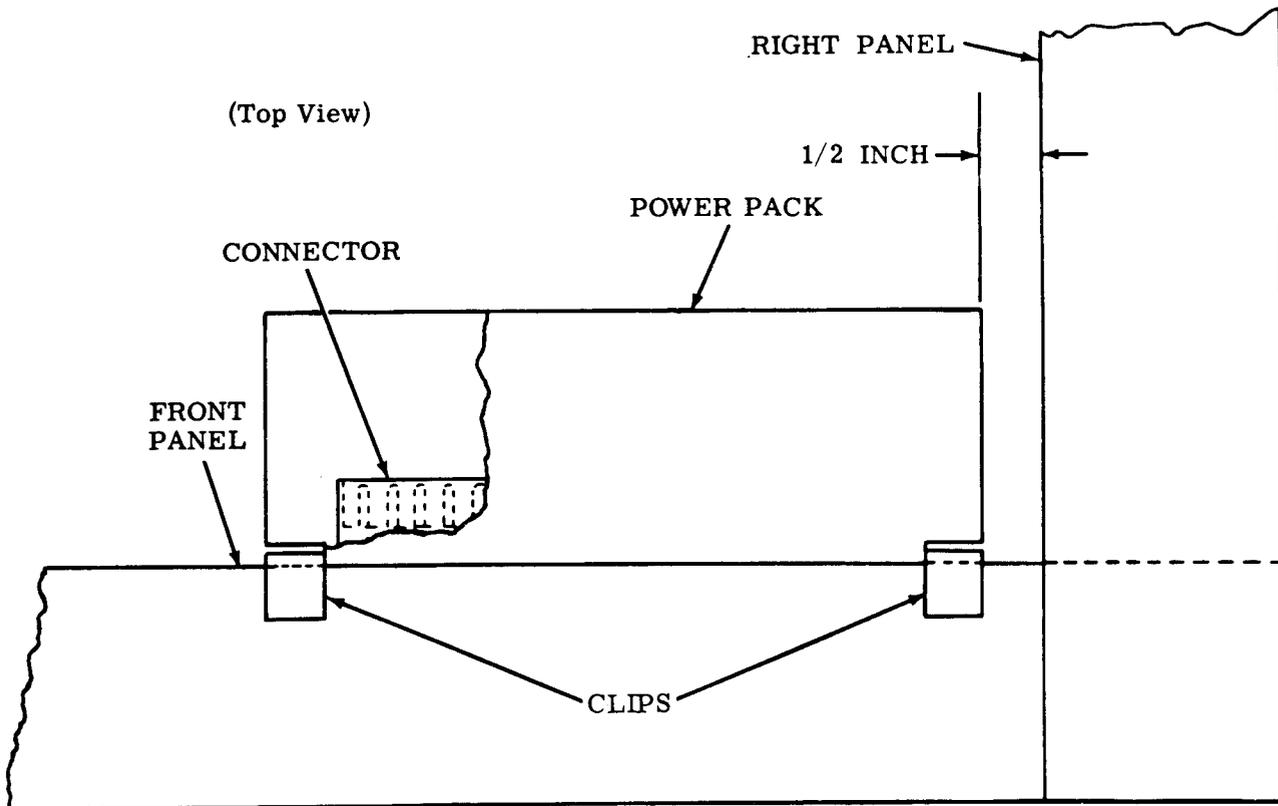

Figure 16 - Power Pack Assembly
5.01 The 3300 Series Coded Sets and Computer I/O Sets have the power pack for the tape reader mounted in the call control unit. Therefore no installation is required. For 33 sets, the reader power pack mounts inside the stand, underneath the base. Two clips attach the power pack to the stand at the left front corner when the set is viewed from the rear. See Figure 16.